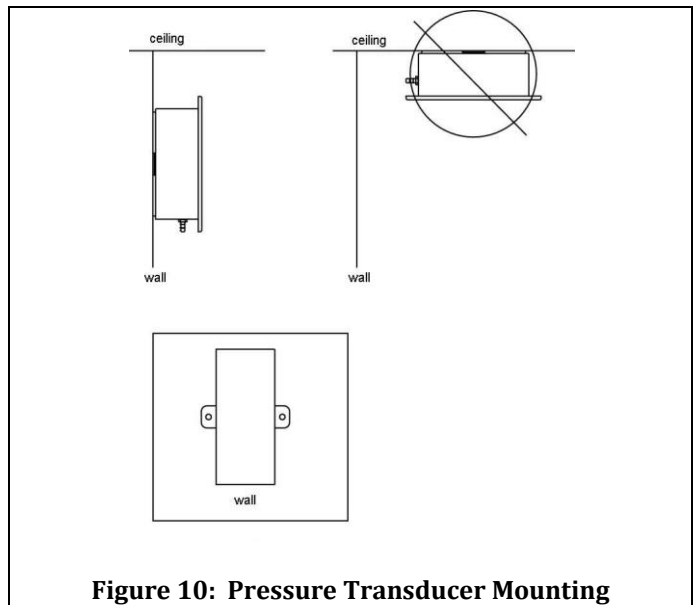

Figure 10: Pressure Transducer Mounting
- 7) Mount the pressure transducer within 10 feet of the flow station. The transducer must be mounted on a wall in the correct position per Figure 10 (screws not provided).